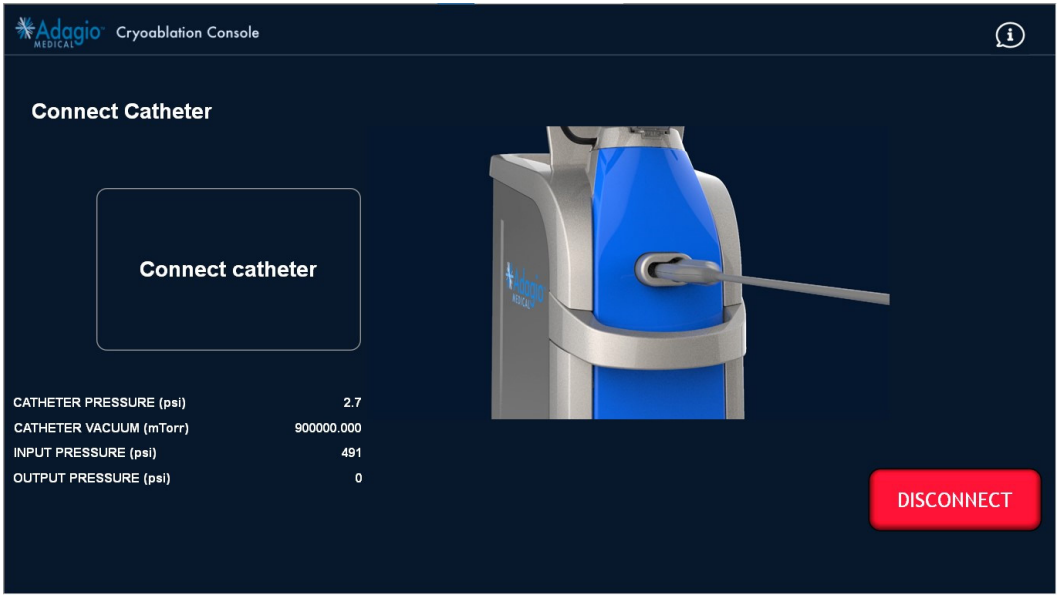

Figure 30 – Catheter Connection Prompt Screen Image
7. Connect Catheter as displayed on the Screen (Figure 30). If the Catheter fails to connect, click on the “DISCONNECT” button.